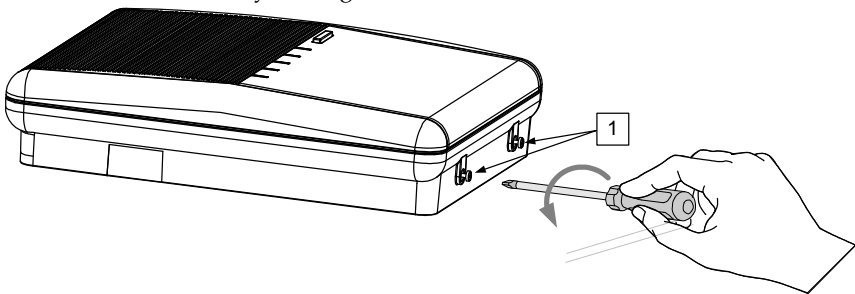

Figure 2: Mounting Bracket screws
- a. Release the Mounting bracket captive locking screws (1, Figure 2) located at the bottom of the unit by turning screws counterclockwise.